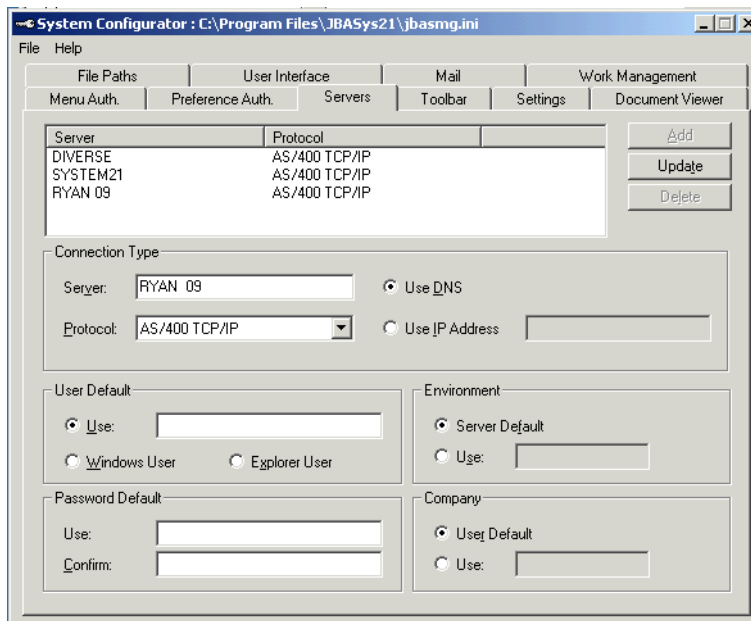

Figure 49. System Configuration Tool - Server definition dialog
3. Click the **Add** button. Enter the name of your AS/400 server, and click **OK**. The full server dialog appears as shown in Figure 49.